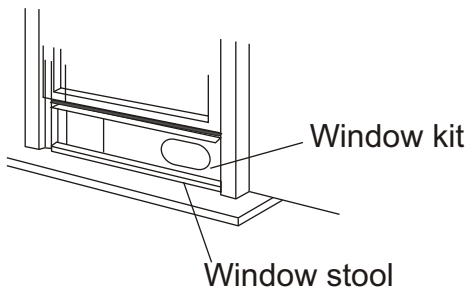

Fig.10
3. Cut the foam seal(adhesive type) to the proper length and attach it on the top of the window. Shown as in Fig.10